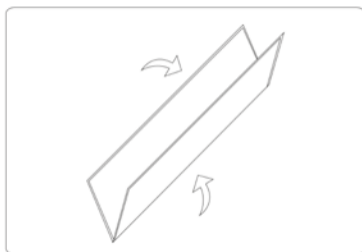

Fig. 20
4. Loosen and remove the ropes, *knob screws (E)* and *eyebolts (F)* from each leg.
6. Remove the frame *legs (B)* from the *folding frame (A)*.
7. Detach the *screen material (D)* from the *folding frame (A)* by carefully unsnapping each button as shown.
8. Fold *screen material (D)* in half, folding the bottom of the screen towards the top. Then, fold in half again in the same way. Lastly, fold the material into thirds to condense the length, see Fig. 20 – 22.